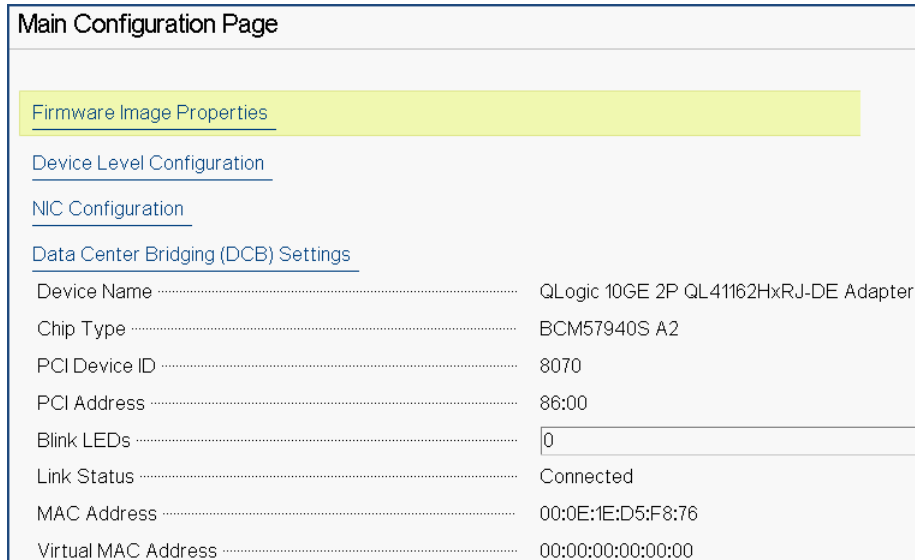
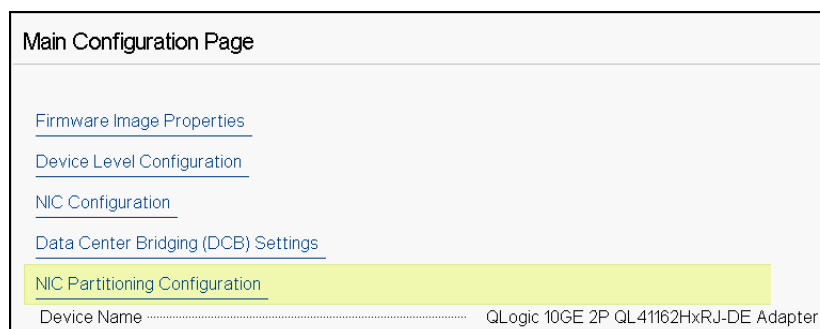

Figure 5-3. Main Configuration Page
Figure 5-4. Main Configuration Page, Setting Partitioning Mode to NPar
The Main Configuration Page (Figure 5-3) presents the adapter management options where you can set the partitioning mode.
4. Under **Device Level Configuration**, set the **Partitioning Mode** to **NPAR** to add the **NIC Partitioning Configuration** option to the Main Configuration Page, as shown in Figure 5-4.
In Figure 5-3 and Figure 5-4, the Main Configuration Page shows the following: